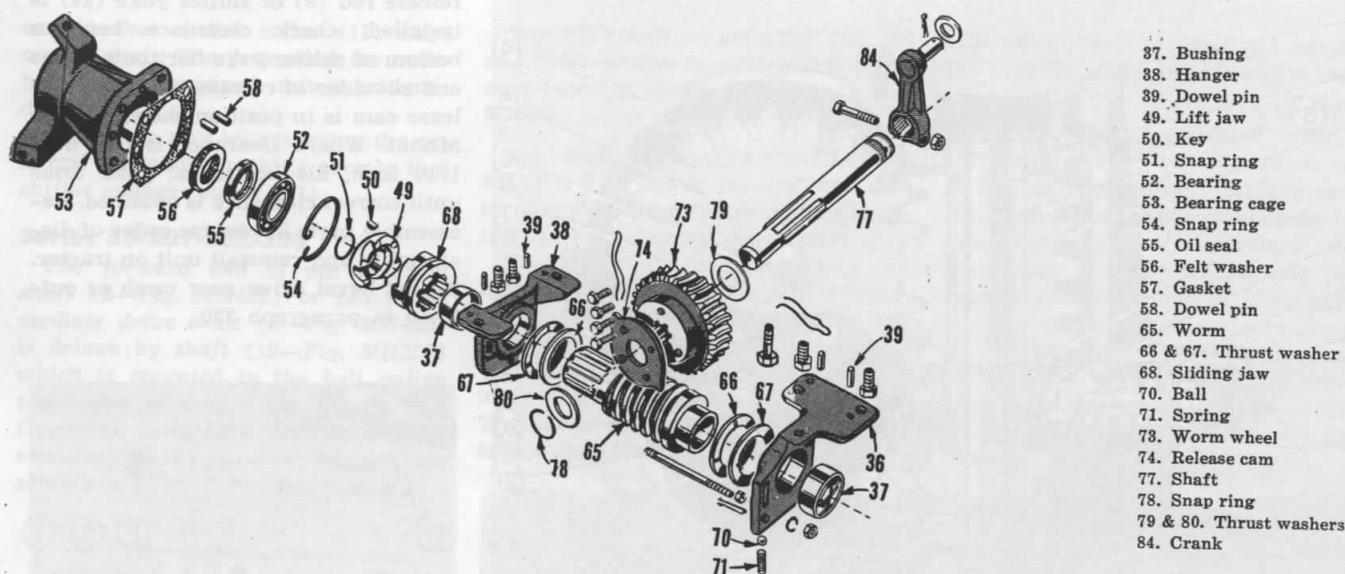
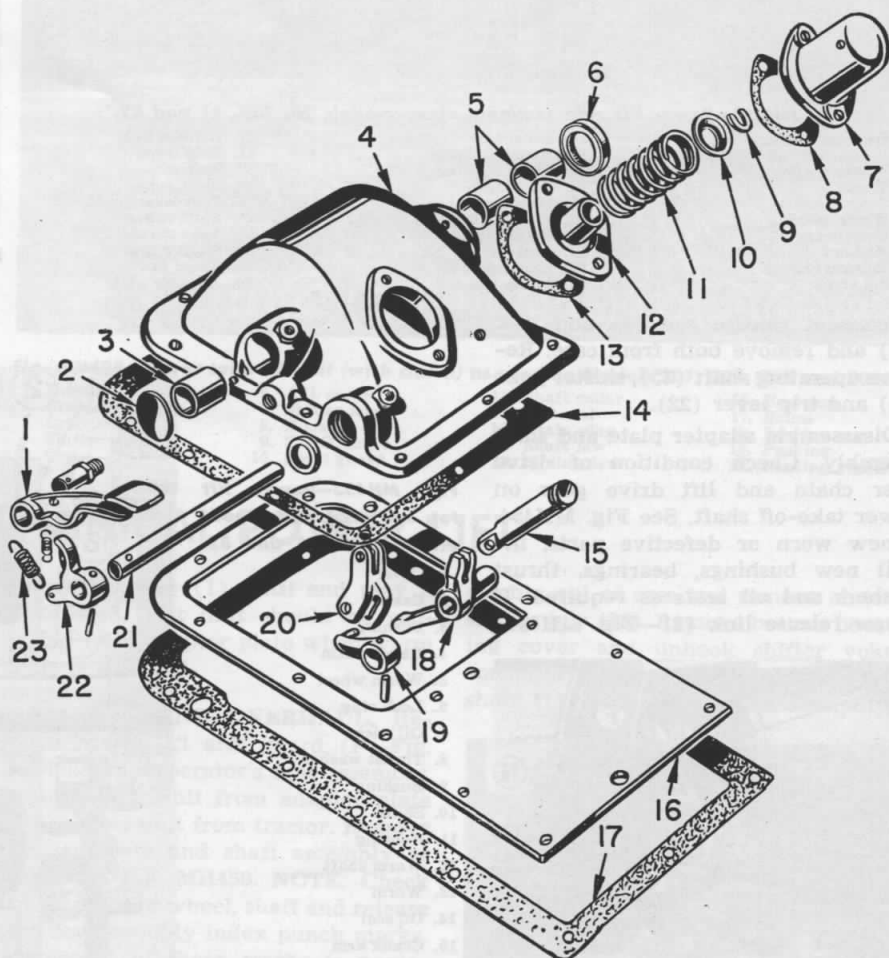

Fig. MH455—Power lift assembly—All models except 20, 20K, 22, 22K, 55, 55D, 55K, 55LP, 81, 82, 201, 202, 203 and 203G. Worm (65) is mounted on the PTO shaft.
Fig. MH456—Power lift housing assembly—All models except 20, 20K, 22, 22K, 55, 55D, 55K, 55LP, 81, 82, 201, 202, 203 and 203G.
322. **ADJUSTMENT.** Power lift worm (65—Fig. MH455) and worm wheel shaft (77) are carried in bushings, with end play controlled by thrust washers. Adjustment is possible only by renewing parts.
323. **R&R AND OVERHAUL.** Remove power take-off shaft assembly, power lift arm guard and operator's seat assembly. Remove cap screws holding lift unit to tractor and remove the unit. Unbolt worm hangers (38 & 36—Fig. MH455) and remove worm assembly. Pry out expansion plug (2—Fig. MH456) and remove snap ring from end of lift shaft. Check lift arm, shaft, worm wheel and release cam for assembly index punch marks or mark if necessary before disassembly. Pull shaft (77—Fig. MH455) out of case and worm wheel (73). Remove worm wheel and thrust washers. Unbolt release plunger rod cap (7—Fig. MH456), extract spring lock (9) and remove spring (11), retainer (10) and plunger rod guide (12). Drive taper pins out of release levers (19 & 22) and pull shaft (21) out of case. Remove lever (18), link (20) and plunger rod (15) from case. Renew worn or defective parts, install new bushings, thrust washers and oil seals as required. Reassemble parts as shown in Fig. MH455 and 456 and reinstall unit on tractor.